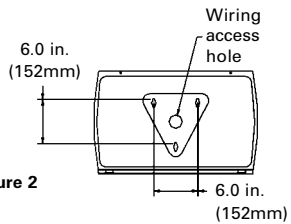

Figure 2
**Surface Mounting:** The luminaire can be mounted over a suitable recessed mounted outlet box. The back plate may be attached to the wall with three 3/8-in. lag bolts, approximately 1-in. (25mm) long (not provided) through the keyhole slots provided (see figure 2). Wire the unit (see Wiring). Re-install reflector and replace cover onto hinge. Reconnect switched quartz safety light and photocontrol (if so equipped) to SnapDrive™. Install lamp (see LAMP INSTALLATION) and re-attach the front cover to hinge pins and secure latches or security screws.